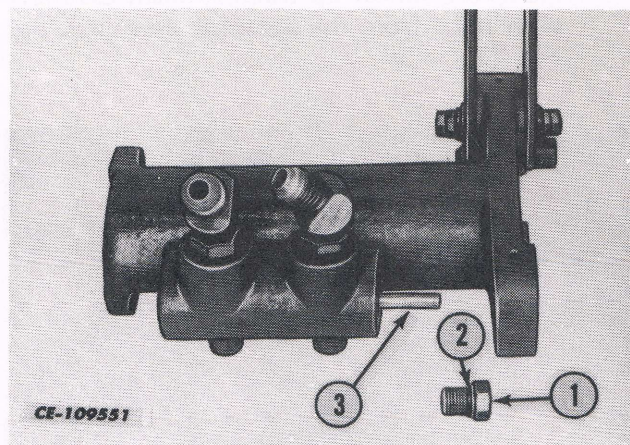
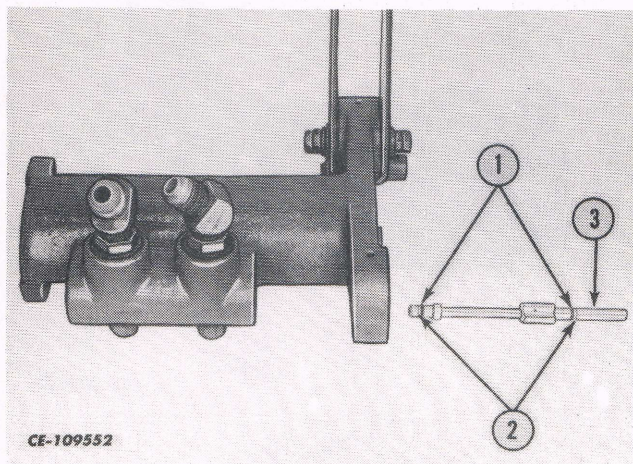

Fig. 19
Fig. 20
h. Remove the variable flow control valve plug (1, Fig. 19) with "O" ring from the spool (3, Fig. 20). Remove the spool with "O" rings and back-up washers (2, Fig. 20).